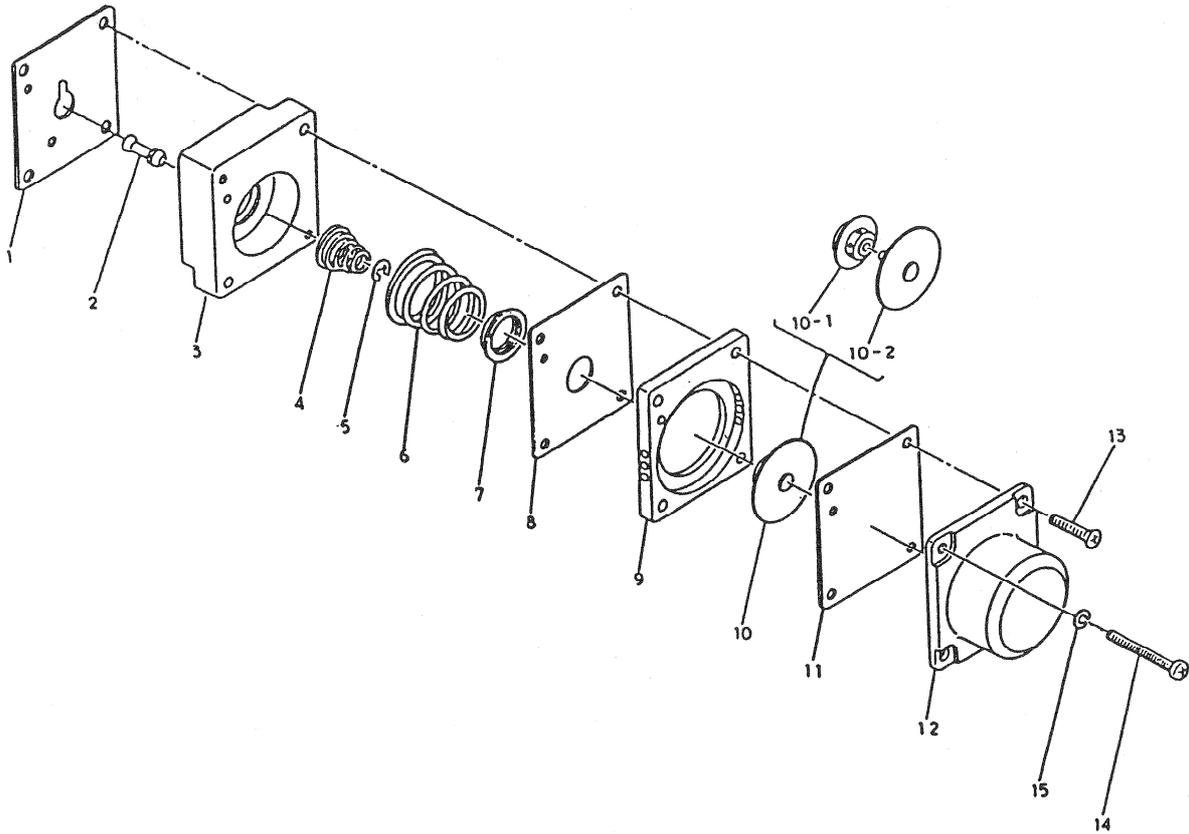

Figure 8-1 Pilot relay disassembled
- 4) Check the pilot relay (Figure 8-1)